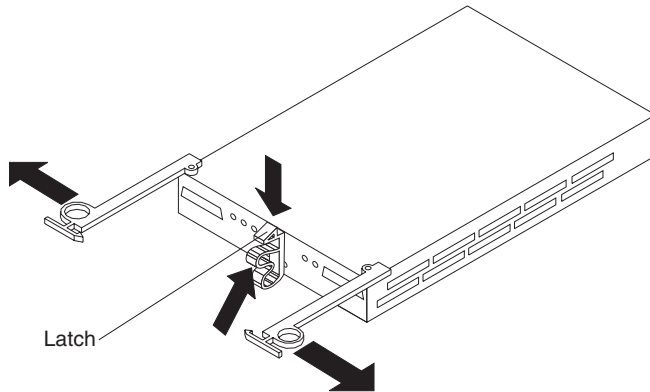

Figure 42. Removing the failed ESM
5. Be sure that the Fault LED is lit; then, push down on the ESM latch. While holding down the ESM latch, grasp the pull rings and pull out on the levers to disconnect the ESM from the FAST EXP100 midplane. The ESM levers will pop out of the locked position, as shown in Figure 42 on page 58.